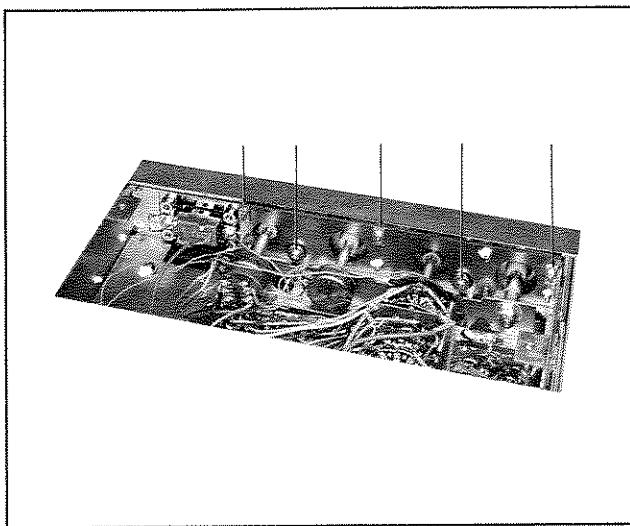

Figure 2. Front Panel Retaining Screws and Nuts.
2. Remove the overlay behind the knobs by removing the three speed-nuts and two screws (shown in figure 2) at the rear of the chassis front. CAUTION: The three studs, secured by the speed-nuts, are plastic and are easily damaged; do not twist the speed-nuts, but carefully pry up from the rear of each nut with the flat blade of a screwdriver while loosening the speed-nut at the top with the point of a pick.